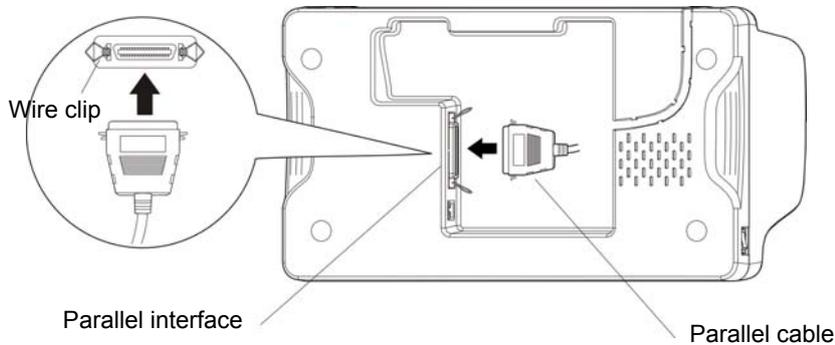

Figure 2-12 Connecting the parallel cable
1. Make sure the computer and the printer are both turned off, plug the parallel cable to the parallel interface connector of the printer, Squeeze the wire clips on both sides and make the connector fixed. (As shown in Figure 2-12)